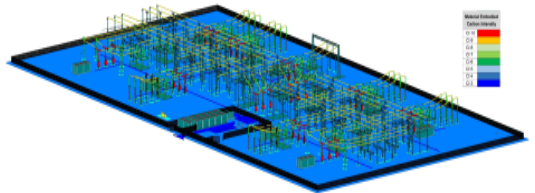

Figure 3: Example of Embodied Carbon Intensity Map
- By integrating embodied carbon data with 3D BIM model, we can now create heat maps of carbon intensity highlighting areas of high carbon intensity, shown in Figure 3.